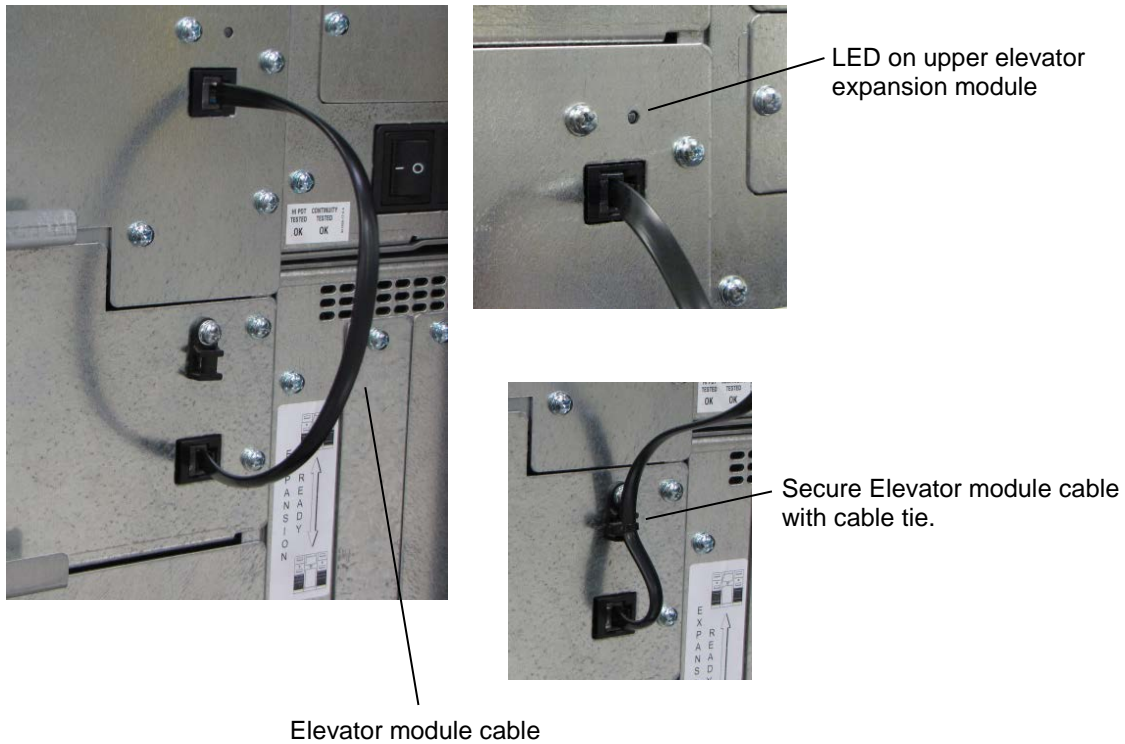

Figure 5-22 The Elevator Module Cable and LED on Upper Module
20. Take the black elevator module cable and plug it into the connectors on the upper and lower elevator modules as shown in Figure 5-22. Note that the cable provides both power and data transfer and can only be acquired from Qualstar. If a new cable is required please contact technical support and request P/N 673-0011-3.